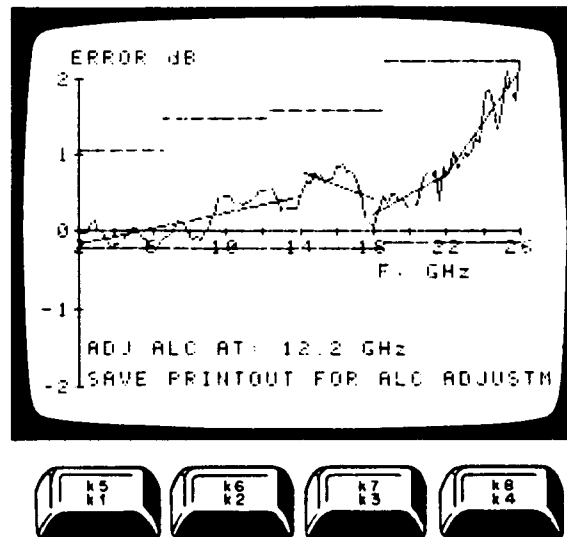

Figure 5-26. Typical Flatness Plot Before Adjustment
- c. A copy of the flatness plot is printed. See figure 5-26.